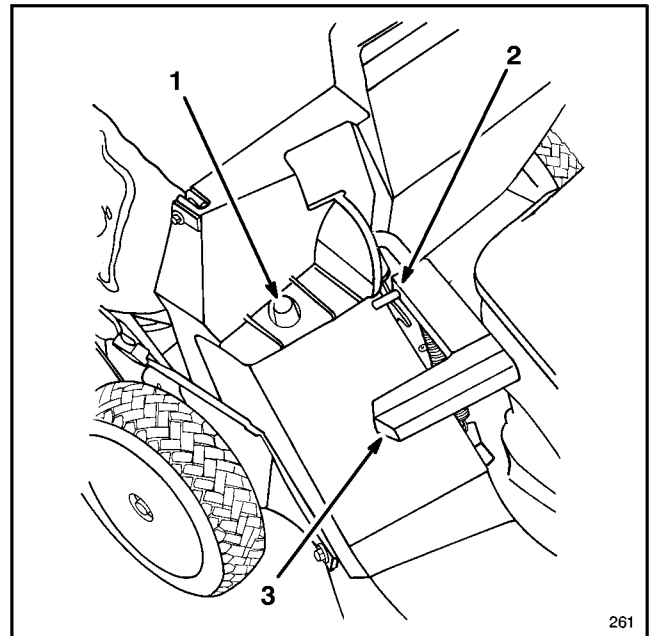

Figure 13
2. Ensure discharge door handle is fully forward and pin is engaged in catch (Fig. 13).
3. **INSTALLING BAG**—Slide hole in bag frame onto retaining post on housing (Fig. 13) and set rear of bag frame onto lower handle.
5. **EMPTYING BAG**—Stop engine and wait for all parts to stop. Raise discharge door handle and move it forward to engage the locking pin with catch (Fig. 13). Grasp handle at front and rear of bag and lift bag off mower. Gradually tip bag forward to empty clippings.